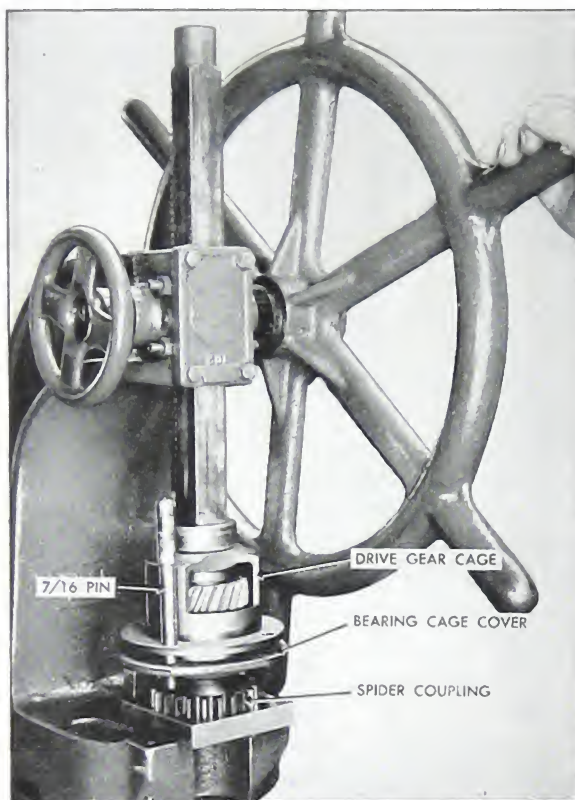

Fig. 9-2. Assembling generator and compressor drive
14. Press the bearing cage on the shaft assembly to cover flange. Use a 7/16" pin to line up holes in gasket, cage and cover. See Fig. 9-2.